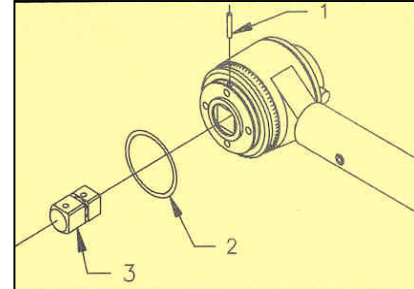

Figure 1. Replacing Output Square Drive Assembly
- 8.1 Remove the O-Ring that is on the face of the square drive carrier (Fig. 1, Item 2).
- 8.3 Insert the new square drive assembly (Fig. 1, Item 3), making certain that the hole in the new square drive assembly lines up with the hole in the square drive carrier.
- 8.4 Insert dowel pin (Fig. 1, Item 1) in square drive carrier, insuring that the pin engages the hole in the replacement square drive.